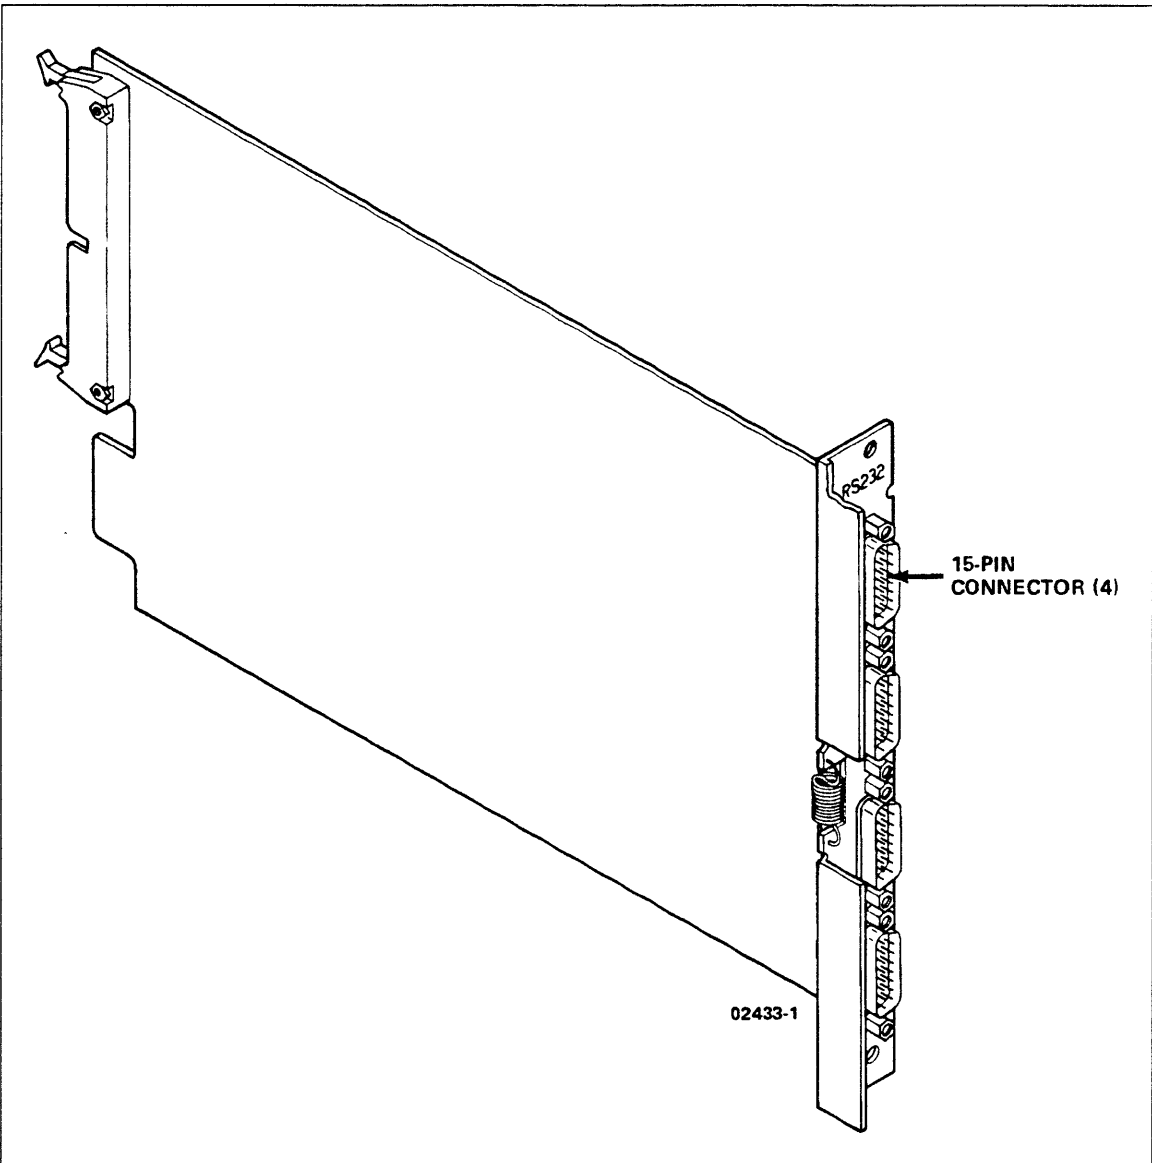

Figure 3-27. RS232-C, 4-Port LIM
2. Unpack LIM boards (figure 3-27), equipment labels, and FCO labels.